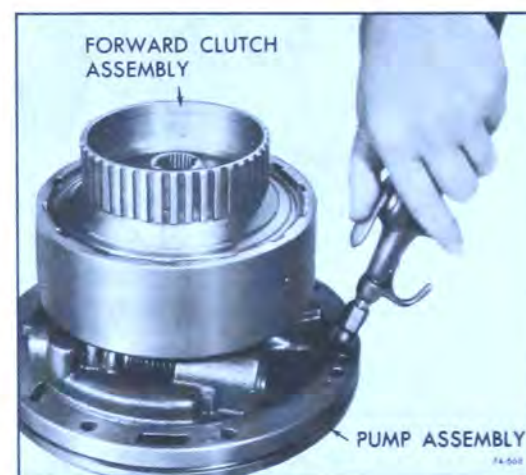

Figure 74-668
12. Place forward clutch housing on pump delivery sleeve and air check clutch operation. See Figure 74-668.